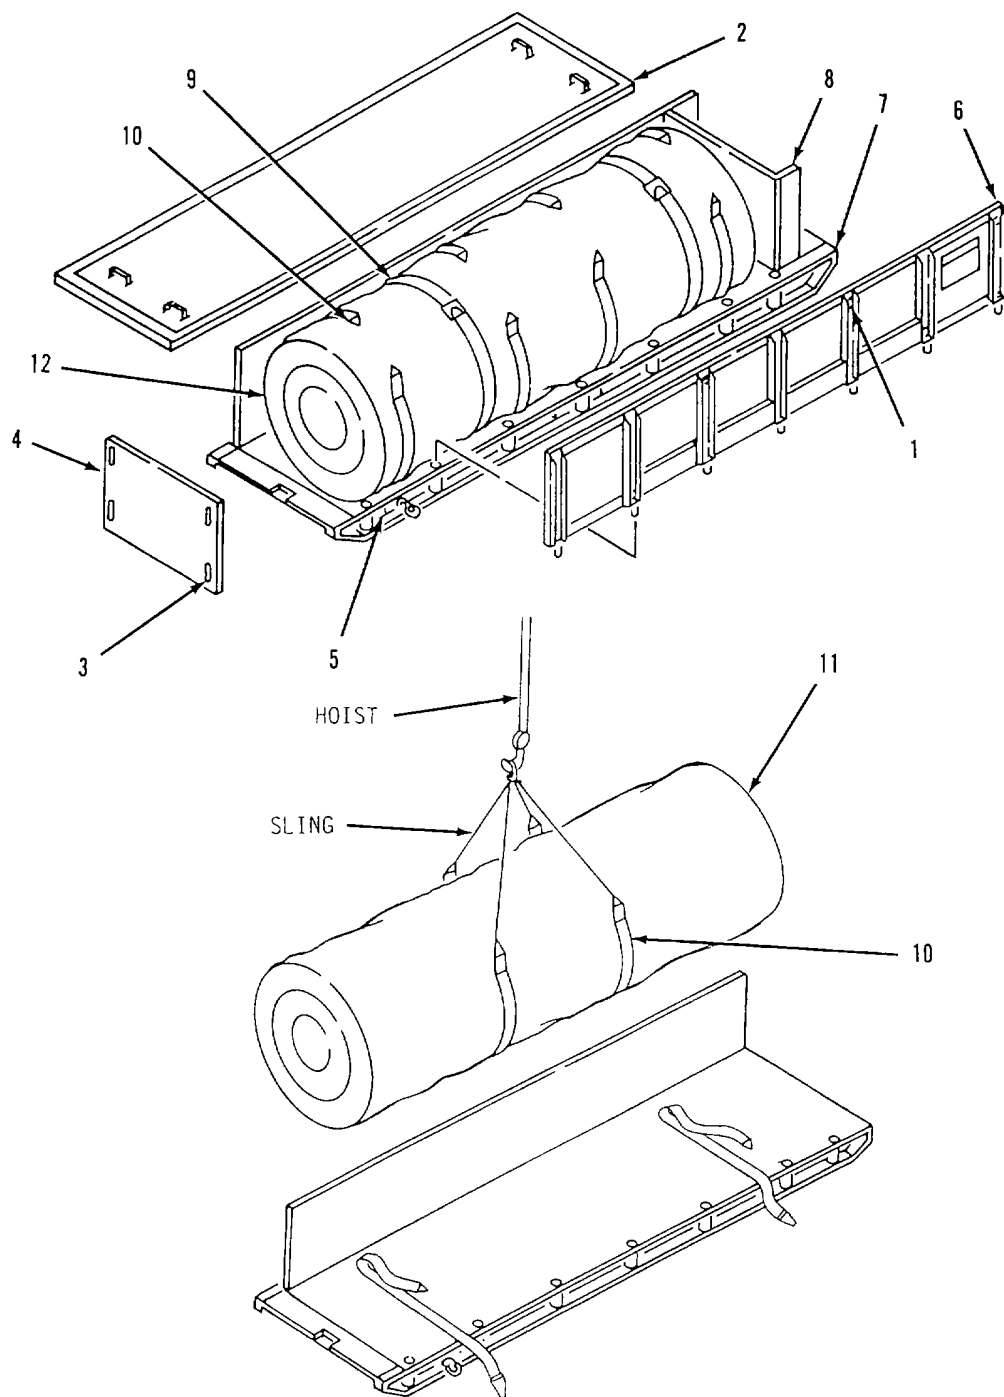

Figure 4-1. Unpacking 50K Water Tank Chest
- b. Unpacking 50K Water Tank Chests. Refer to figure 4-1